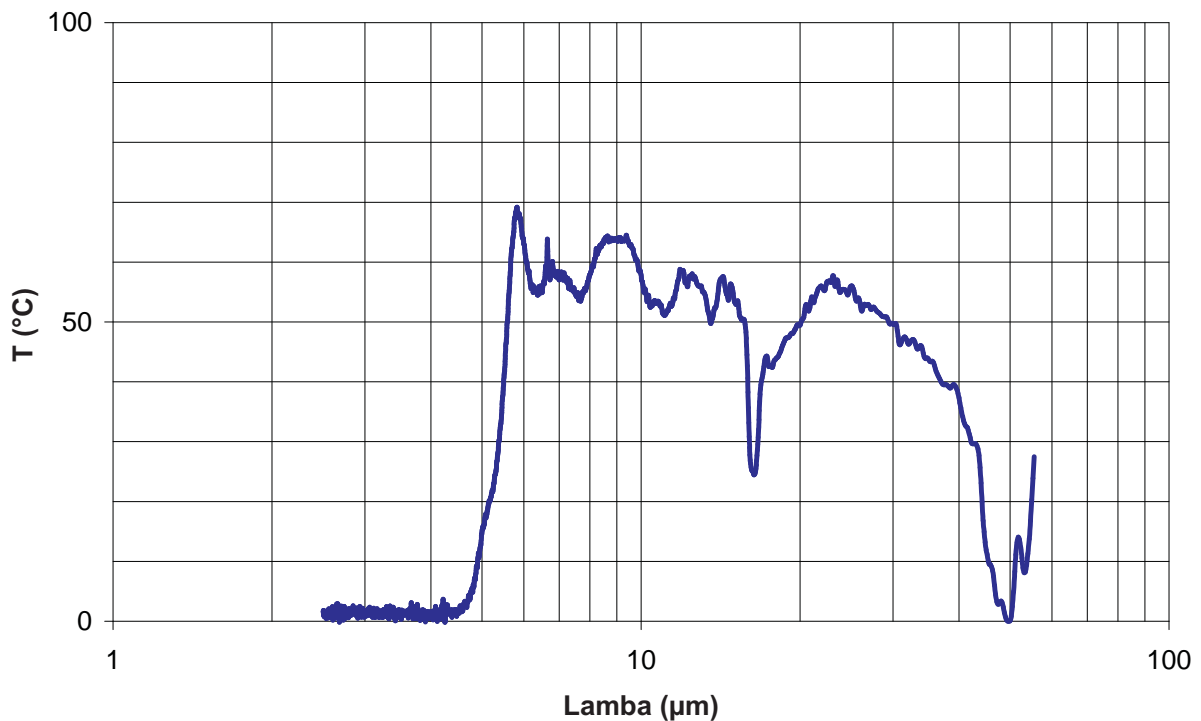

Fig. 2.1: Transmission of the silicon window
2. determine the instrument spectral range: silicon is transparent to wavelengths longer than 1.1 μm , therefore on the inside of the window there is a filter to block radiation up to 4.5 - 5 μm . The silicon external surface, which is exposed to weather agents, has a scratch-resistant coating (DLC) to ensure strength and durability in all weather conditions. The scratch-resistant coating offers the advantage of cleaning the surface without the risk of scratching the window. The transmission of the silicon window as the wavelength varies is shown in figure 2.1.